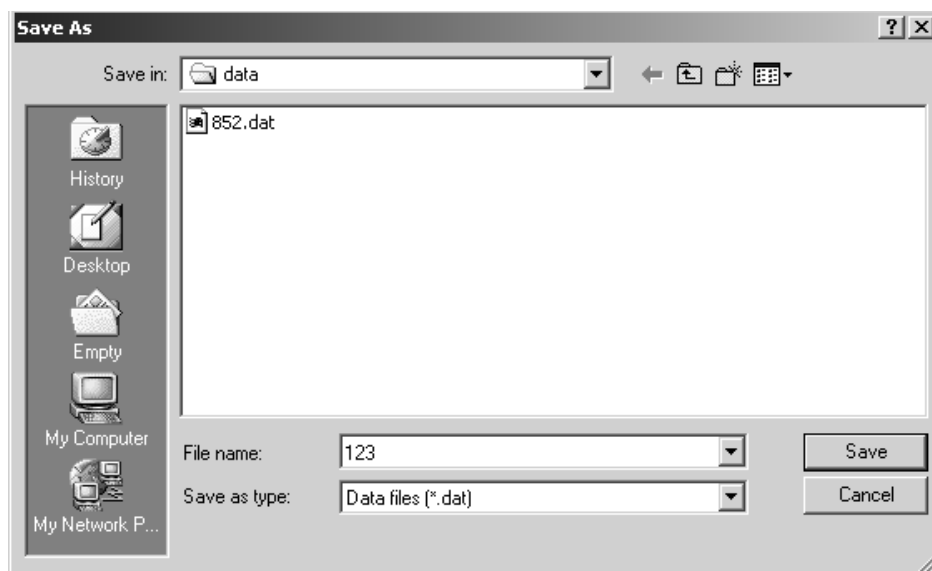

Figure 4.3. The window of Save
- 2) Select “File” of the main menu → Save to open the window of Save Figure 4.3.